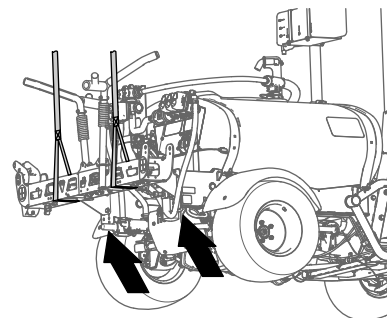

Figure 45
- Support the center-spray section with lifting equipment with the specified capacity (Figure 45).